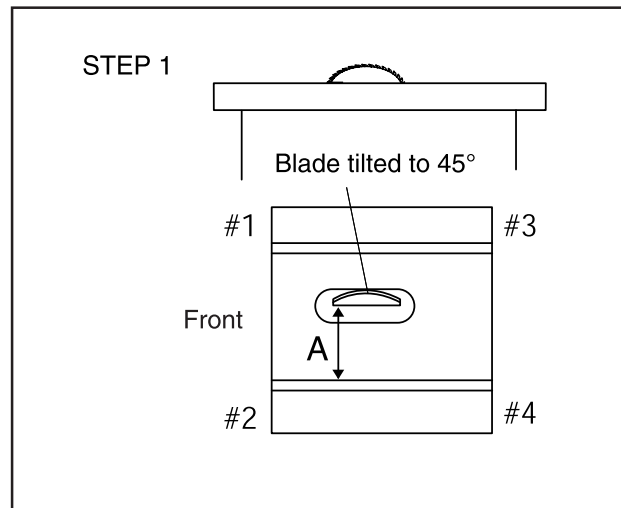

Figure 77. Shim procedure diagram A.
11. Refer to **Figures 77 and 78**, for shim placement. If the distance of A is shorter than B, shim(s) will need to be placed under corners #1 and #2. If the distance of B is shorter than A, shim(s) will need to be placed under corners #3 and #4. Very thin shim stock works well—just make sure they are all the same thickness, and you put an equal number under each of the two corners.